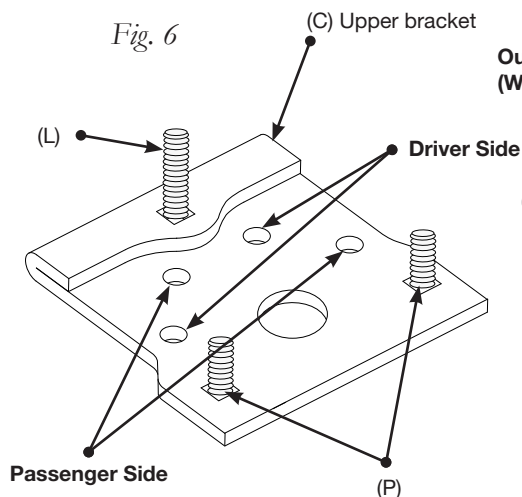

Fig. 6
4. Insert two 3/8"-16 x 1 1/4" carriage bolts (P) up through the bottom of the upper brackets (fig. 6), through the two square holes that are on the corresponding side. Also, insert one 3/8"-16 x 2 1/2" carriage bolt (L) through the remaining hole. The head of this carriage bolt will be hidden once mounted to the air spring.
5. Set the driver side (left) upper bracket onto the driver side air spring assembly previously assembled, using the holes in the upper bracket designated (fig. 6), and attach to the air spring with two 3/8" flat washers (W), lock washers (EE), and 3/8"-24 x 7/8" hex head cap screws (DD). Tighten both mounting screws securely.